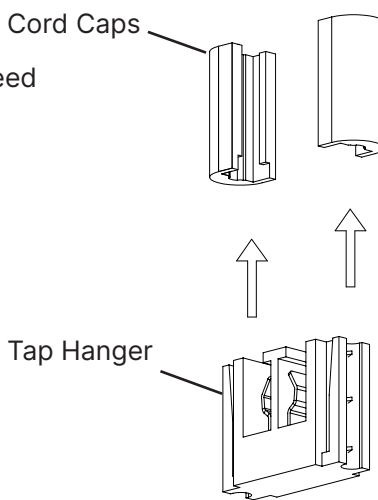

Fig. 2
3. Remove **Cord Caps** from **Tap Hanger** by sliding them up and off the sides of the **Tap Hanger** (Fig. 2).